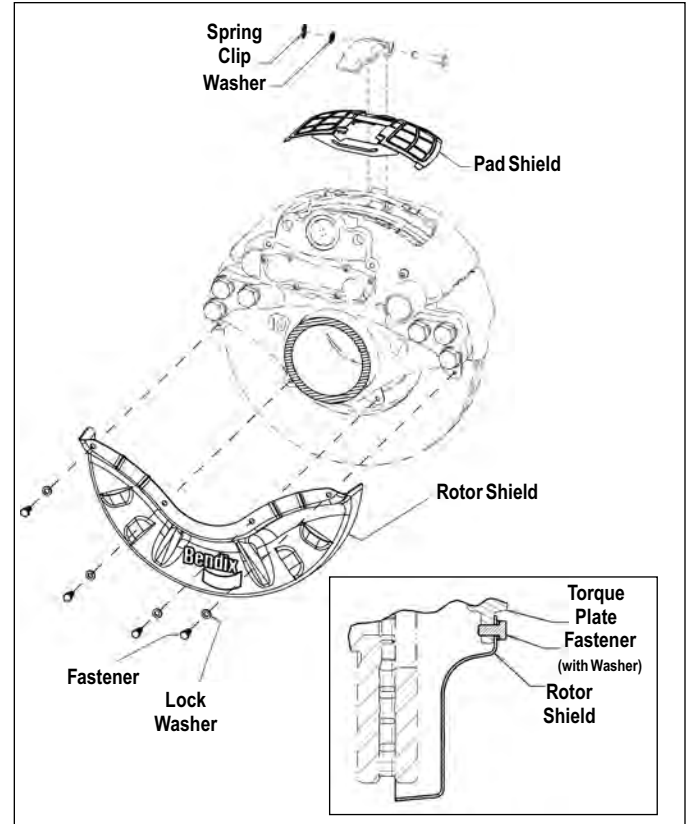

FIGURE 32 - TRAILER AXLE EXPLODED VIEW WITH INSET SHOWING ROTOR SHIELD INSTALLATION
5.1.4 **Trailer Axle Rotor Shields** (See Figure 32). Position the rotor shield with *the torque plate between the shield and the rotor*. With one (supplied) lock washer in place on each cap screw, pass the screws through the shield before mounting onto the threaded torque plate holes. Torque the cap screws to 24 ft. lbs. (288 in. lbs.).